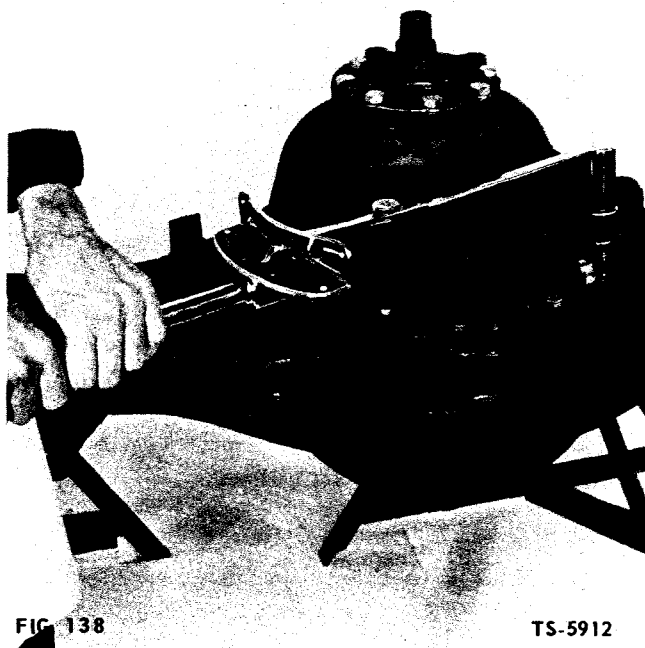

FIG. 138
2. Install dowels, nuts, and washers on three studs. Install remaining bolts and washers (Fig. 138). Tighten per torque specifications.